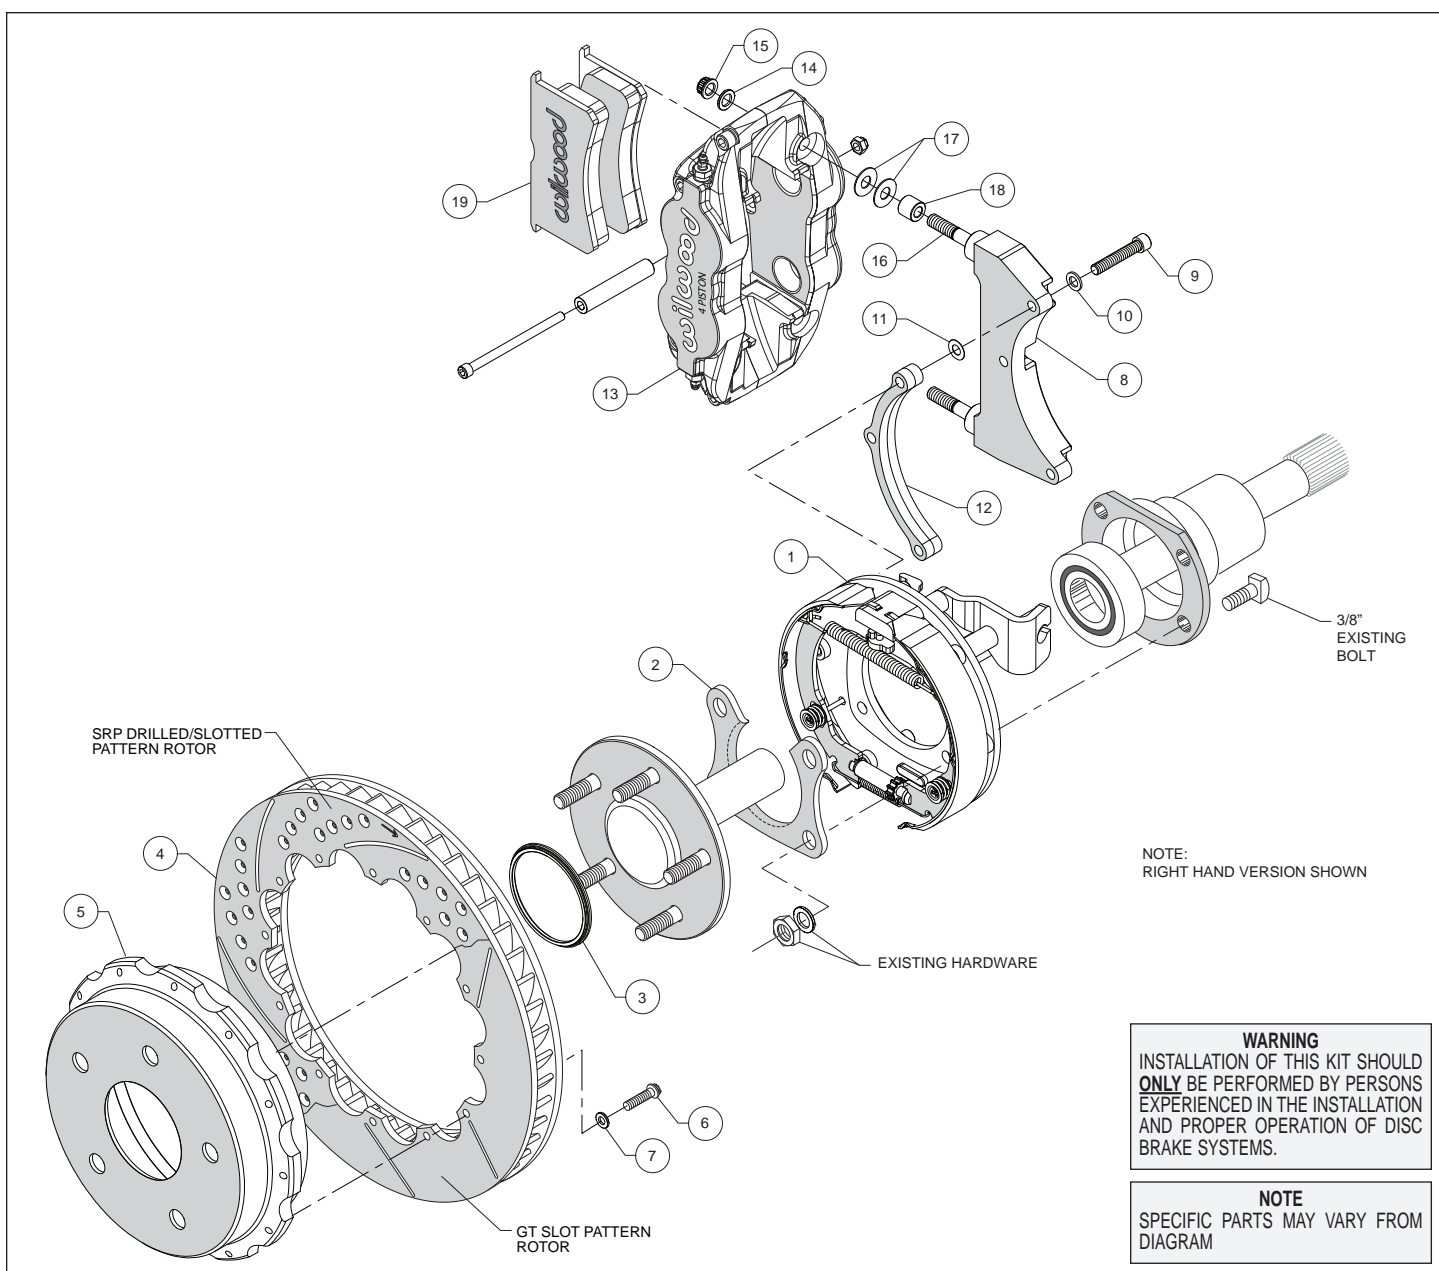
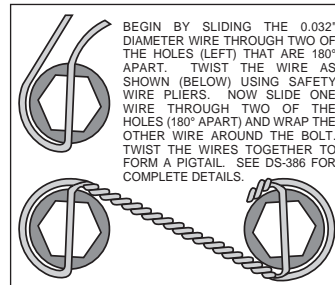

Figure 1. Typical Installation Configuration
Figure 5. Safety Wire Diagram
Assembly Instructions (numbers in parenthesis refer to the parts list, and Figure 1 on the preceding pages): **CAUTION:** All mounting bolts must fully engage clinch nuts. Be sure to check that all bolts are either flush or protruding through flanged side of clinch nut after shimming.
- Orient the bracket assembly (1) as shown in Figure 1 and Photo 1 and slide it onto the axle. Insert the axle and bracket into the axle housing. Ensure that the bracket assembly backing plate fits flush against the axle housing flange.
- Install the bearing retainer (2) with the opening pointing upward and the lip facing inward (toward the bearing), as shown in Figures 1 and 4, and Photo 2. Secure retainer and bracket assembly to the axle housing flange using the Original Equipment Manufacturer (OEM) bolts, washers, and nuts, Figure 1. Apply red *Loctite*® 271 to the OEM bolt threads and torque to OEM specifications.
•**NOTE:** Please reference the caution statement at the beginning of the assembly instructions. The caliper mounting bracket (8) should initially be installed with clean, dry threads on the mounting bolts. Orient the bracket as shown in Figure 1 and Photo 3, and install using bolts (9) and flat washers (10). Initially place one .015" shim washer (11) on each bolt between the bracket (8) and spacer (12), Figure 1. Temporarily tighten the mounting bolts. **NOTE:** End of bolt should not exceed inside face of insert. The bracket must tighten squarely against the back side of the bracket kit assembly (1). Inspect for interference from casting irregularities, machining ridges, burrs, etc. Later, after the caliper alignment has been checked, the mount bolts will be secured using red *Loctite*®.
•Orient the rotor (4) and the hat (5) as shown in Figure 1 and Photo 3. Attach rotor to hat using bolts (6) and washers (7). Using an alternating sequence, apply red *Loctite*® 271 to the threads, and torque to 140 **in-lbs**. For an added measure of security, the bolts may be safety wired using standard 0.032 inch diameter stainless steel safety wire as shown in Figure 5. Please refer to Wilwood's data sheet DS-386 (available at www.wilwood.com/Pdf/DataSheets/ds386.pdf) for complete safety wire installation instructions.
•Slide the rotor registration adapter (3) onto the axle register on the axle flange with the smaller O.D. facing toward the rotor/hat (4/5), Photo 5. Align the hole pattern in the hat with the stud pattern on the axle flange and slide into place, Figure 1 and Photo 6. **NOTE:** The rotor/hat must fit flush against the axle flange or excessive rotor run out may result. Install three lug nuts (finger tight) to keep the rotor/hat assembly in place while continuing with the installation. **NOTE:** Some OEM and after market axles come with stud sizes larger than 0.50" diameter. Verify stud size and have a qualified machine shop drill the bolt circle of the hat/rotor to the correct stud size, if necessary.
•Lubricate the caliper mounting studs (16) with lightweight oil. Initially place two .035" thick shims (17) and spacer (18) on each stud as shown in Figure 1 and Photo 7. Mount the caliper (13) onto the bracket (8) using lock nuts (15) and washers (14), Figure 1. Temporarily tighten the lock nuts and view the rotor through the top opening of the caliper. The rotor should be centered in the caliper, Photo 8. If not, adjust by adding or subtracting shims (11) between the bracket (8) and the spacer (12). Always use the same amount of shims on each of the three mounting bolts. Once the caliper alignment is correct, remove the bracket mounting bolts (9) one at a time, apply red *Loctite*® 271 to the threads, and torque to 180 **in-lb**.